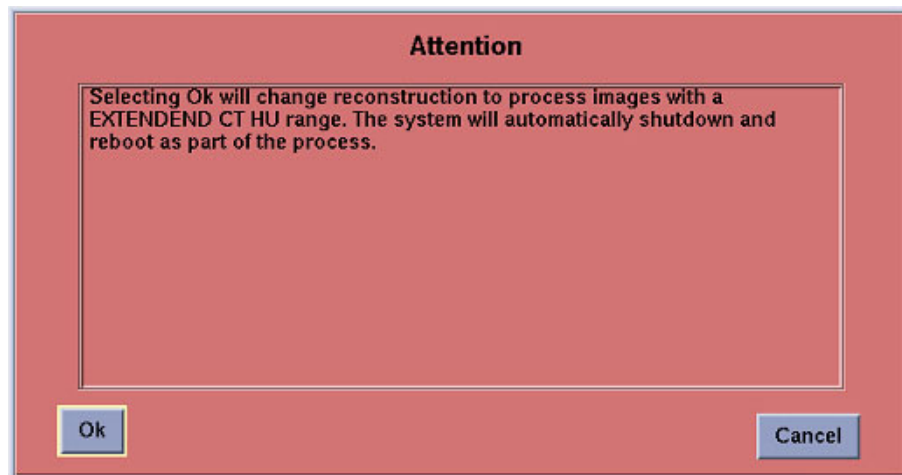

Figure 5-25 System Reboot Notice Screen
- 2.) A notice will appear, indicating that a system reboot is required to enable the change of modes from the current to mode selected in the Tool Bar. See Figure 5-25.
- 3.) Click OK to reboot. (See Figure 5-25.)